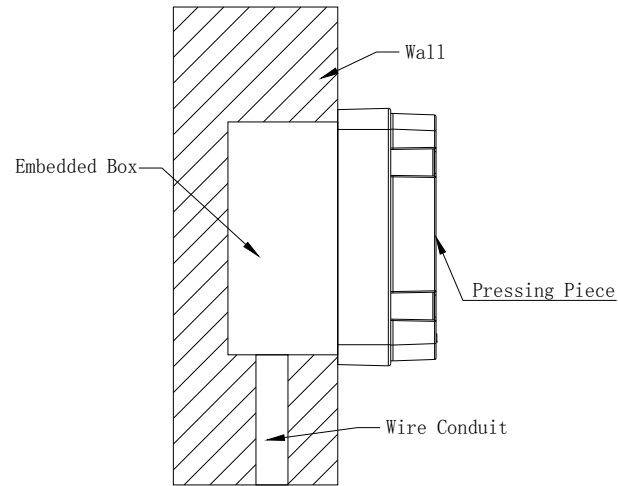

Figure 1
2. Fix the base of the fire hydrant start button to wall as shown in Figure 1. Follow the arrow mark for the correct position. Do not over-tighten the screws otherwise the base will twist.